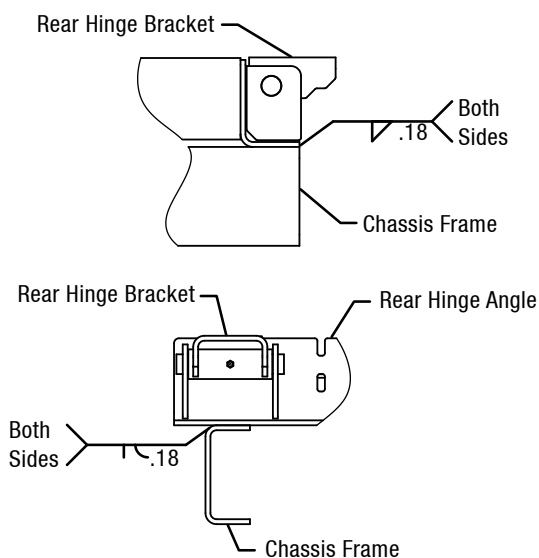

Figure 9: Rear Hinge Installation Location
5. Weld the rear hinge angle to the chassis frame as shown in Figure 9.